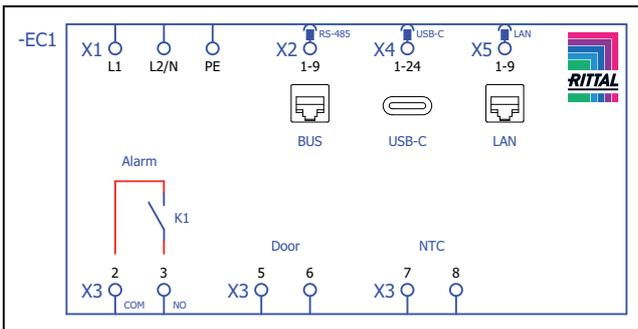
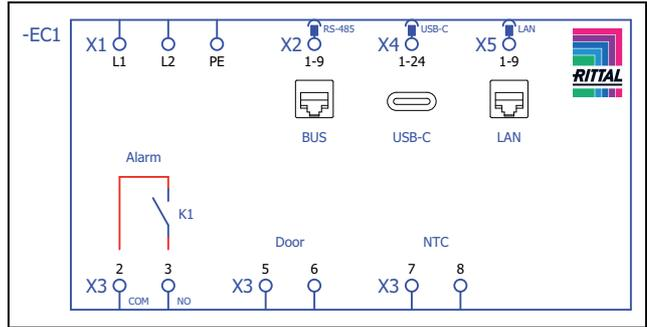

Fig. 45: Circuit diagram SK 3478800, SK 3478801, SK 3479800, SK 3479801, SK 3480800, SK 3484800
Fig. 46: Circuit diagram SK 3484840
- Remove the mains connector from the dispatch bag and connect to the mains as shown on the connection diagram (fig. 45 or fig. 46).